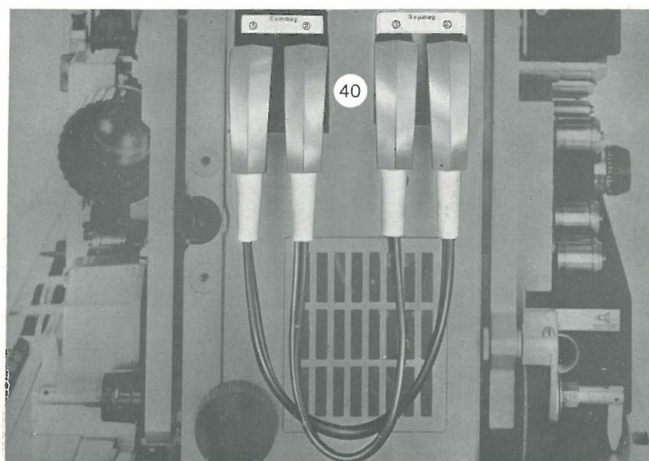

Fig. 9
Sockets **②** and **③** as well as **①** and **④** must be connected via double-band cables (see **figure 9**).